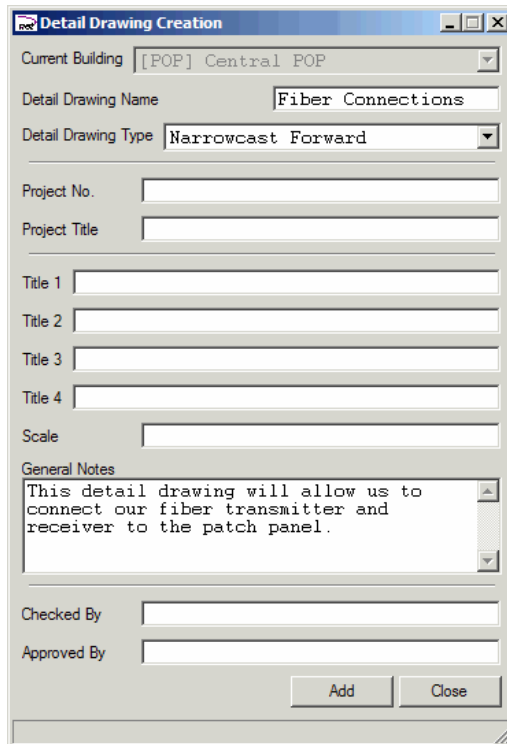

Figure 228 – Detail Drawing Creation panel
4. Fill in the fields of the Detail Drawing Creation panel as shown in Figure 228, below.
5. When the fields are filled in as required, click the **Add** button shown in Figure 228.